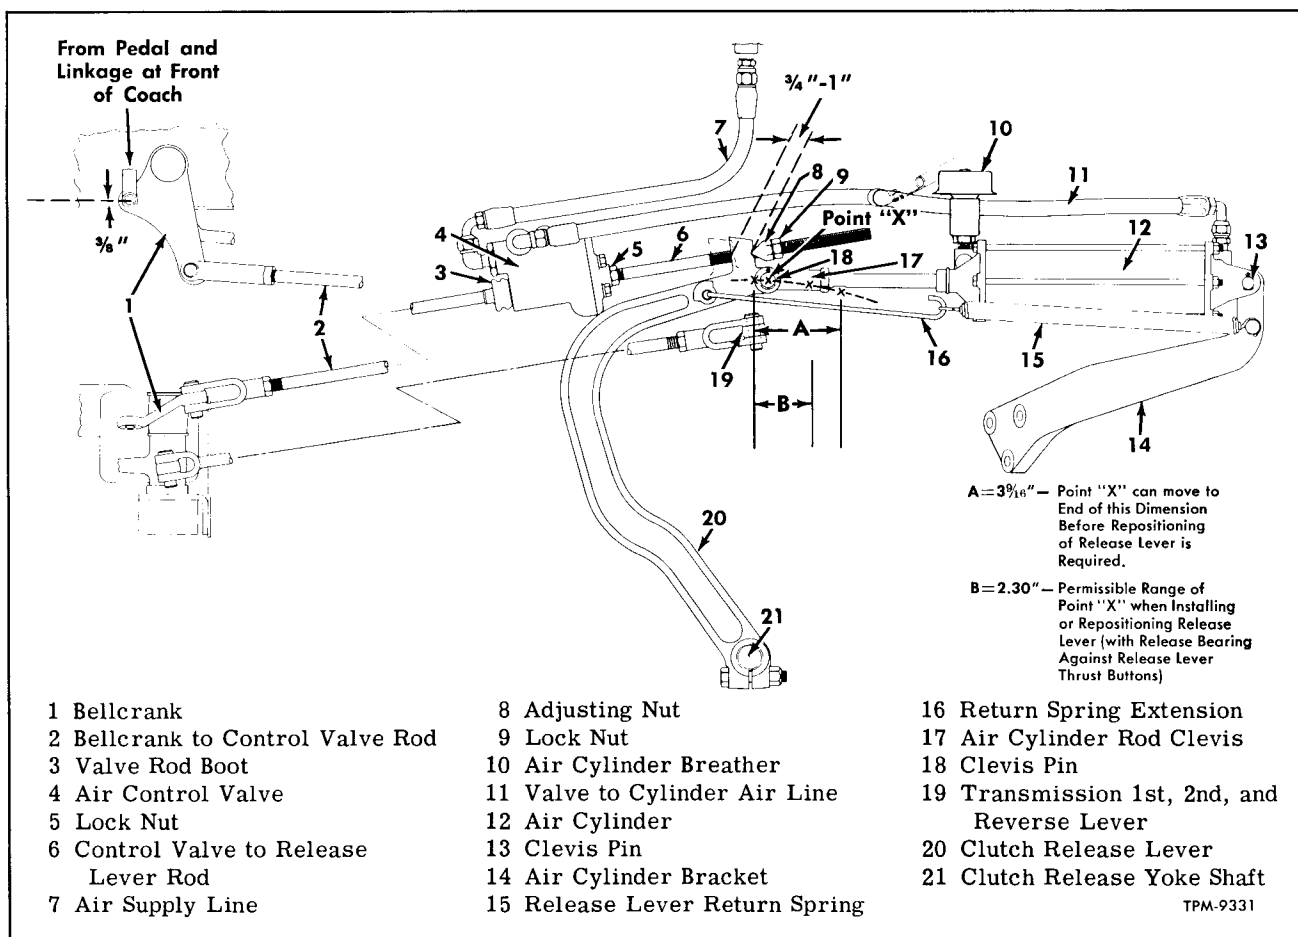

Figure 6—Clutch Control Mechanism in Engine Compartment
2. Referring to figure 6, check lock nut (5) on rod (6) at air valve (4). Lock nut must be kept tight to hold valve in position. There must be no twisting force on control valve plunger in either the engaged or disengaged position.
engine compartment. This adjustment must be made when inspection indicates need for adjustment. The minimum of 3/4" free movement of release lever (fig. 6) must be maintained to assure clearance between release bearing and thrust buttons on clutch release levers, and to provide full disengagement of clutch when clutch pedal is near floor. Check and make adjustment as follows:
Key numbers in text refer to figure 6.
1. Unhook clutch lever spring (15).
2. Move lever (20) from point of contact with wedged end of nut (8) toward control valve (4). If lever free movement is not at least 3/4 inch shown in figure 6, make adjustment as instructed in step 3. below. Adjustment should be maintained as closely as possible to 3/4 to 1 inch to provide ideal clutch operation.
3. Loosen lock nut (9), and turn adjusting nut (8) as necessary to provide 3/4 to 1 inch free-travel of lever (20). Be sure wedge end of adjusting nut (8) is aligned with V-notch in release lever (20), then tighten lock nut. After tightening lock nut, re-check control valve for binding both in the engaged
As clutch facings wear, point "X" (fig. 6) normally moves toward air cylinder (13) with each succeeding release bearing clearance adjustment. This point, which is the centerline of clevis pin attaching air cylinder clevis to release lever, must be within the dimension shown for "A" in figure 6 when clutch is engaged. To determine if lever (20) should be repositioned, shift transmission in neutral, then measure distance from center of pin in lever (19, fig. 6) to point "X" when clutch is engaged. If the distance is more than 3-9/16 inches, release lever must be repositioned on release yoke shaft (21, fig. 6) as follows:
Key numbers in text refer to figure 6 unless otherwise indicated.
1. Place transmission gearshift lever in neutral, and unhook release lever return spring (15). Remove clevis pin which attaches clevis to release lever at point "X" and disengage clevis from lever (20).
2. Loosen clamp bolt securing release lever (20) to shaft (21), and mark lever (20) and end of shaft (21) to show original relationship.
3. Pry release lever (20) off shaft (21), move top of lever toward air control valve (4) one serration from original position as marked in step 2, and reinstall lever on shaft.
4. Check position of point "X" which must be within the dimension shown for "B" in figure 6, with release bearing contacting clutch release lever thrust buttons. Tighten release lever clamp
NOTE: Release lever (20) cannot repeatedly be repositioned. After lever has been repositioned once and normal wear has permitted point "X" to reach maximum limit as shown for dimension "A" on figure 6, it must be determined whether there is sufficient clearance between the clutch release levers (32, fig. 2) and clutch cover (12, fig. 2) to warrant repositioning lever again. This can be checked through opening in clutch housing after removing screened cover from housing (14, fig. 2). If clearance is less than 3/16 inch, new clutch disc and facing assemblies must be installed, unless release levers are reset as directed below under "Resetting Release Levers." After installing new facings, release lever will require repositioning toward air cylinder to bring point "X" within the dimension shown for "B" on figure 6.
4. Reposition release shaft lever to locate point "X" (fig. 6) within proper operating range. Refer to "Repositioning Release Shaft Lever" covered previously in this section.